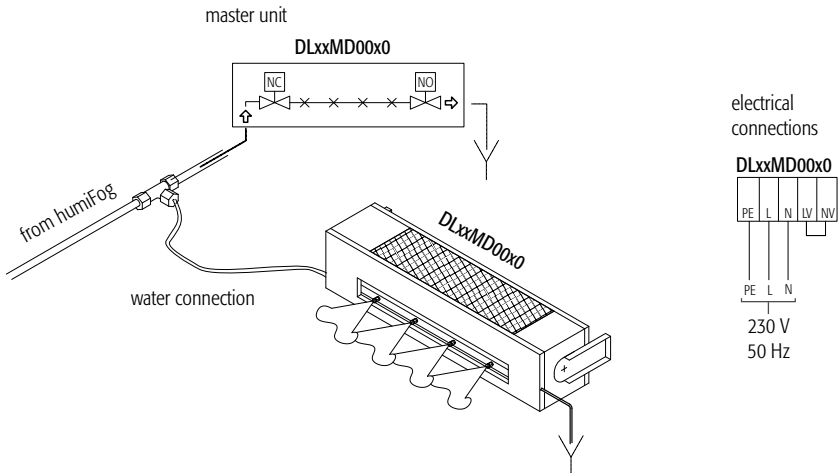

Fig. 13
N.B.: Fig. 13 shows installation spaces required in rooms with an ambient temperature of 20°C and a relative humidity of 50%.